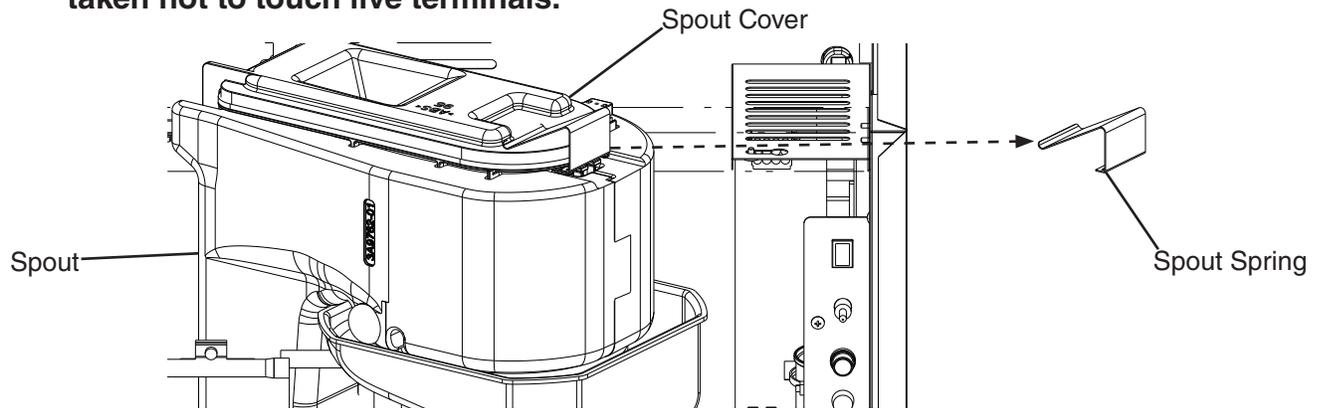

Fig. 16
- 3) Remove the spout spring from the spout. See Fig. 16.